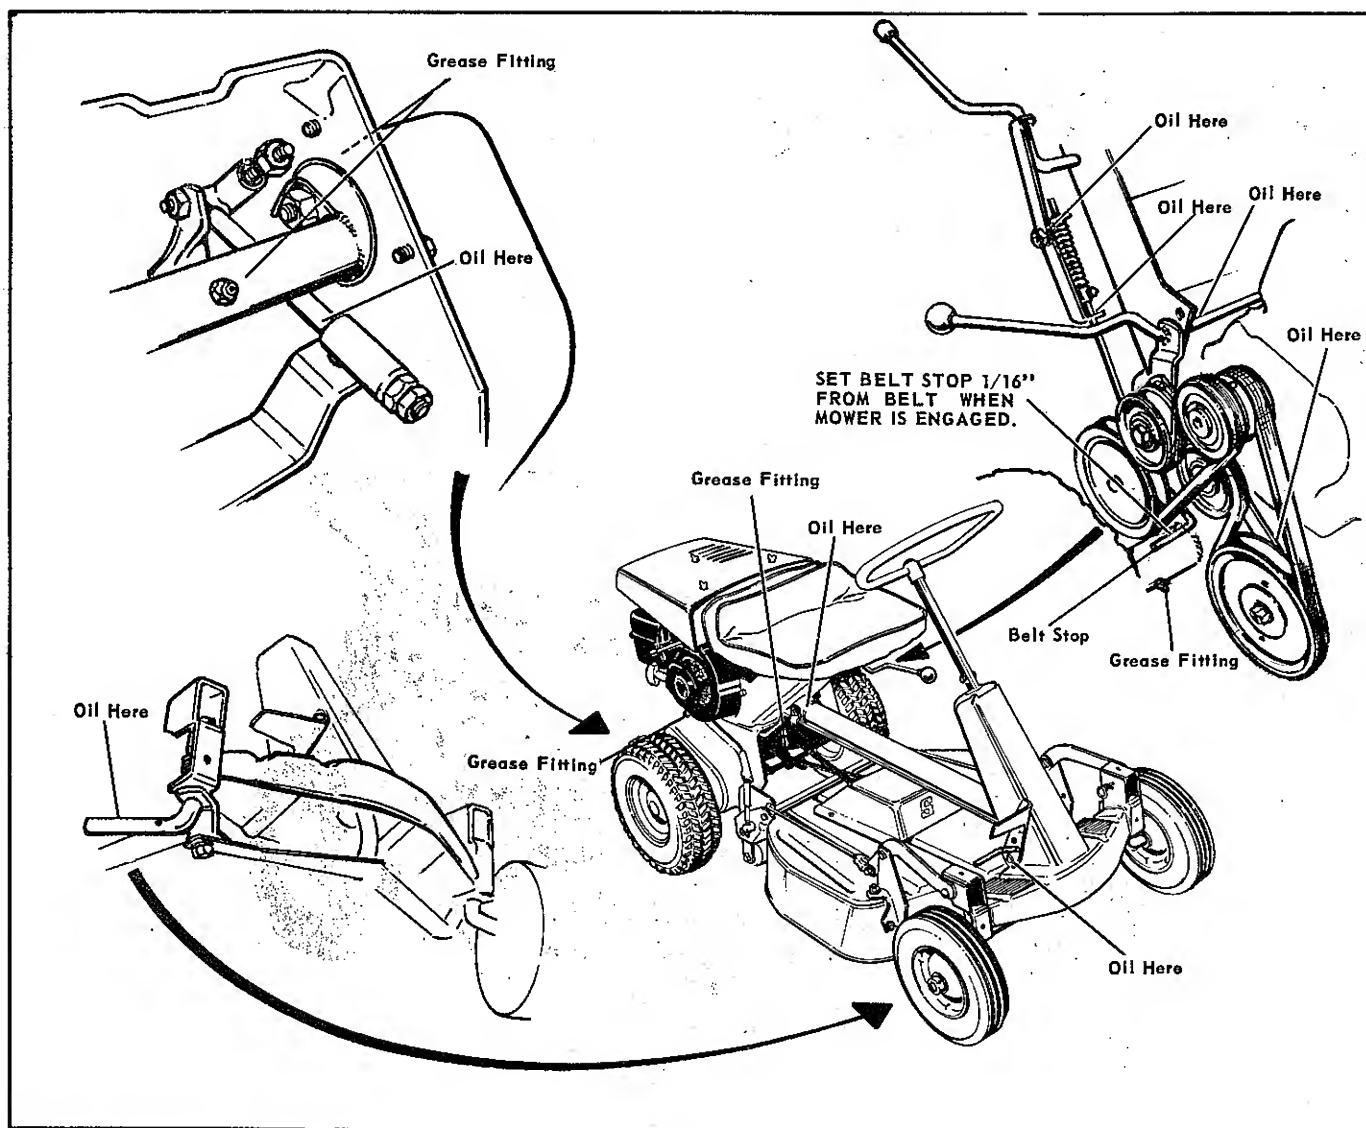

FIGURE 1
2. Grease all fittings every 10 hours of use. See Fig. 1